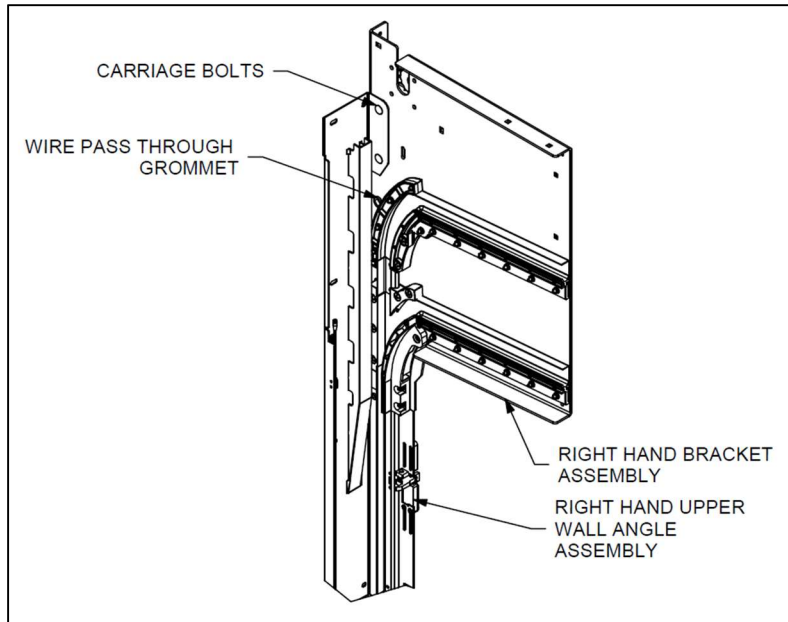

Figure 6 - WIRING HARNESS PATH
17. As the bracket is being installed, run both sensor wiring harness extensions through grommet hole in bracket displayed in **Figure 6**.